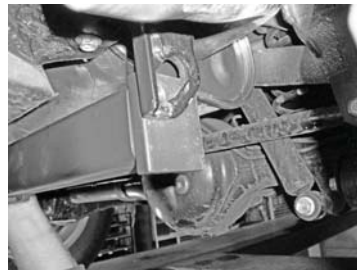

Figure 1
2. Lift Towbar up into position (driver's side first) and fit M12 x 30 bolts, spring washers and loose plates through large slots in the vehicle towing hooks, as shown in Figure 1. Do not fully tighten yet.